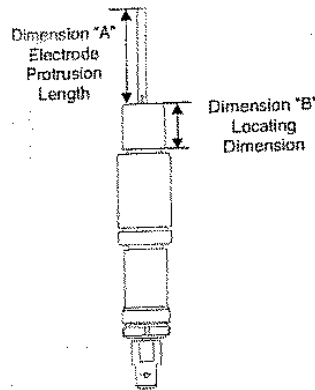

Figure 1: Y75 Sensing Probe
4. Check the length of Dimension B (see Figure 1) to ensure the correct replacement probe is being used.
5. Compare the sensing probe rod protrusion length (Dimension A, see Figure 1). If required, trim the length of the Y75 rod being installed to the same length as the sensing rod being replaced.